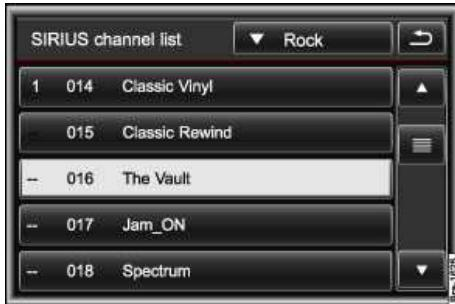

Fig. 149 Station list for station selection.
All available stations are displayed in the station list ⇒ fig. 149.
- To close the station list, press the function key ⇒ fig. 149.